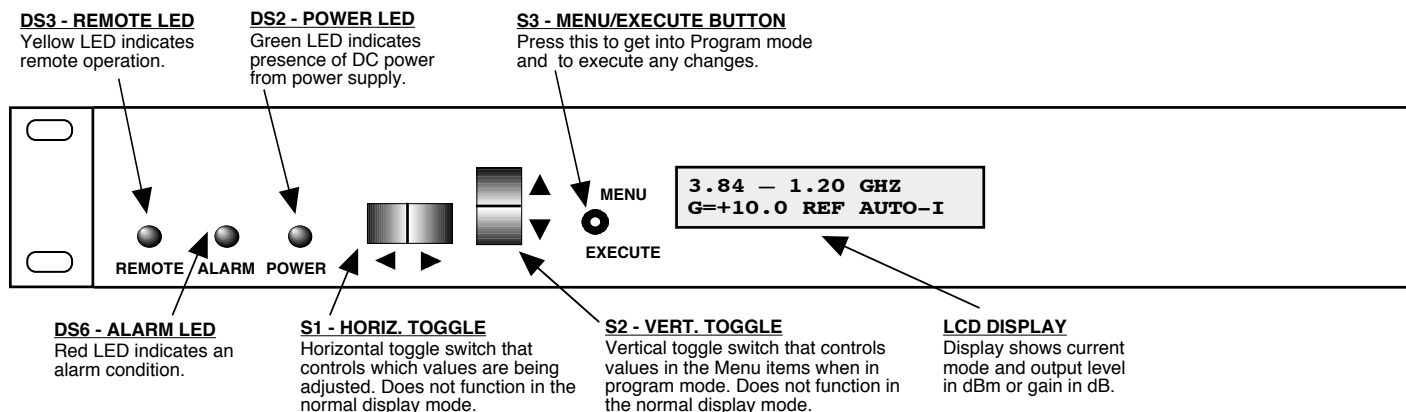

FIGURE 2.2 3116-35 Front Panel Controls and Indicators
Figure 2.2 shows the front panel controls and indicators.
5. Be sure DS2 (green, DC Power) is on and DS6 (red, Alarm) is off (Figure 2.2).
Alarm indications appear on the LEDs (see Figure 2.2).